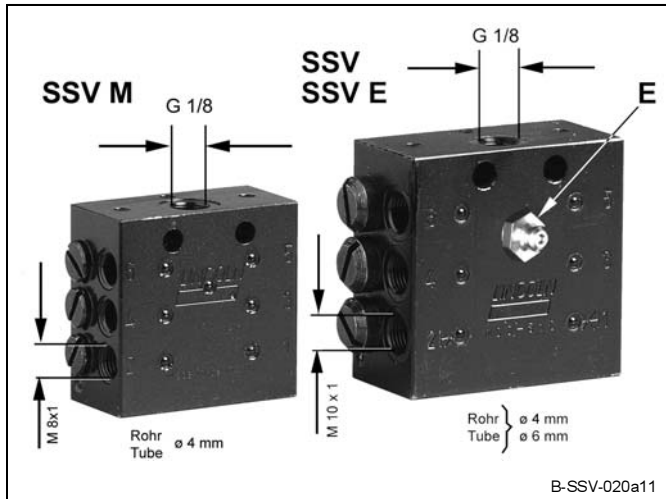

Fig. 11 Differences between SSV M and SSV/SSV-E
- The SSV-E progressive metering device consists of an SSV progressive metering device and an emergency lubrication fitting E (fig. 11). Time for troubleshooting can be reduced significantly by using e. g. a hand-lever gun in combination with the emergency lubrication fitting.